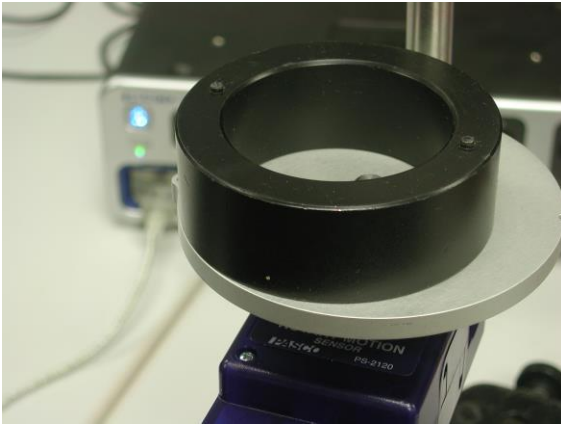

Figure 3: Offset Ring
1. Place the ring on top of the disk so it is off center enough for the edge of the ring to be tangent to the edge of the disk (see Figure 3).